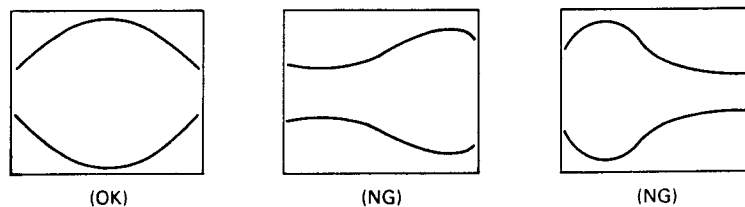

Fig. 11. NORTH-SOUTH Phase PCC
- (1) Tune receiver into crosshatch signal.
- (2) Set SHARPNESS control at click-stop position and push "OPTIMUM" button.
- (3) Set the following VR4000, VR4002 and VR4003 variable resistors to the specified positions. Fully clockwise position (on the parts side)
- (4) Connect an oscilloscope between TP86(+) and TP88(-).
- (5) Adjust T4000 for voltage of 45 Vp-p.
- (6) Observing the top line (a) on the screen, adjust T4001 for optimum NORTH-SOUTH phase PCC as shown in Fig. 11.